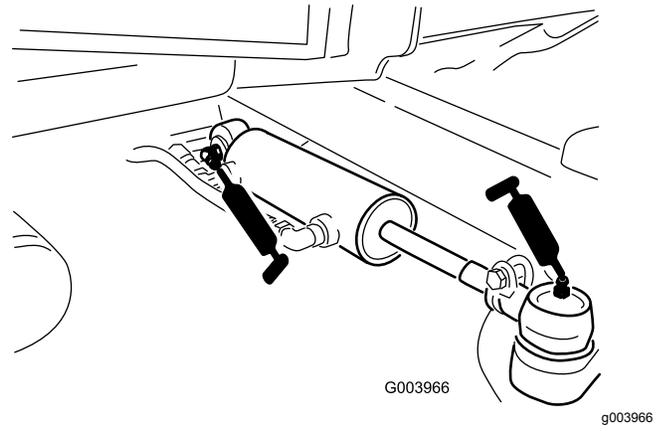

Figure 70
- Steering-cylinder ball joints (2) (Figure 70)